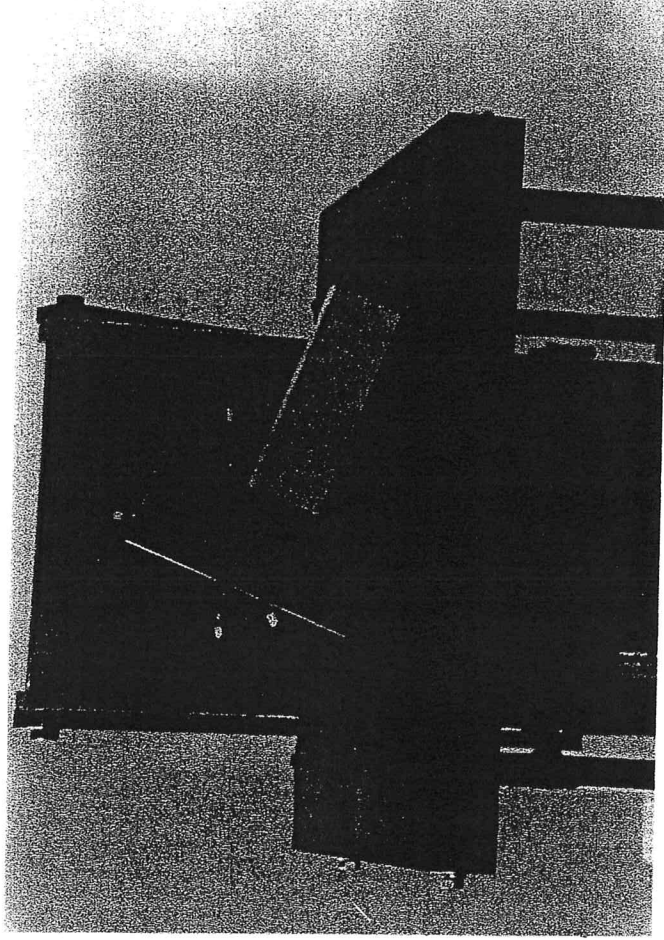

Fig. 10
9. File the corners off of the tenon and assemble. (fig. 10)